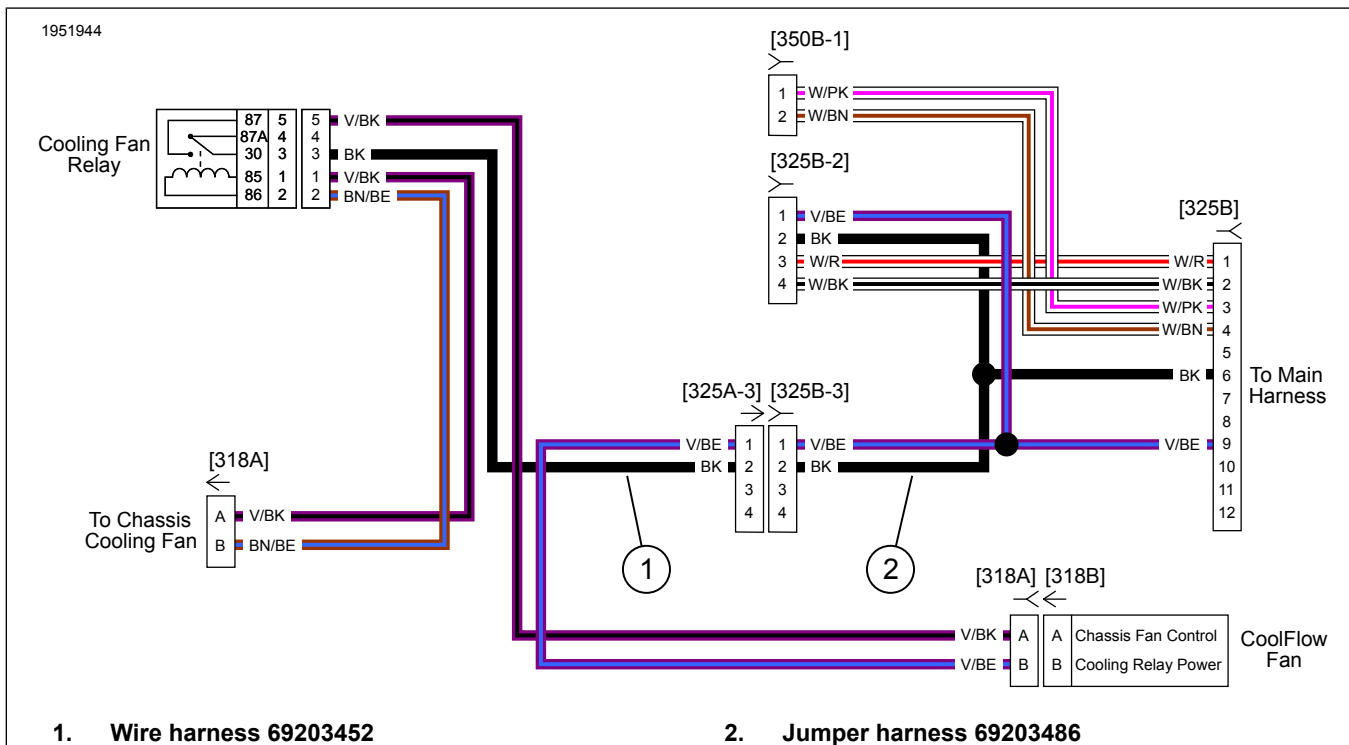

Figure 5. Wire Schematic for Center-Cooled Vehicles
- b. See Figure 5. Connect Jumper Harness (Part No. 69203486) 12 Way [325B] to vehicle's P&A [325A].
- d. See Figure 5. Connect [318B] to [318A].